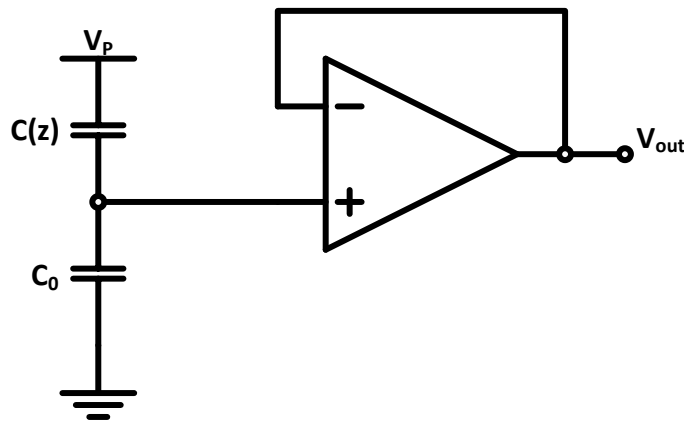

Figure PS1-2
- (f) Many MEMS-based accelerometers sense ΔC as a measure of the magnitude of acceleration experienced. Figure PS1-2 presents one possible circuit that converts a change in capacitance to a readable output voltage. Here, the fixed capacitor C_o has the same value as the bottom electrode-to-proof mass capacitance of the accelerometer at rest. (The accelerometers electrode-to-proof mass capacitance is represented by $C(z)$ in the figure.) For this circuit, write an expression for the output voltage V_{out} as a function of acceleration a , assuming the op amp is ideal. How does the output voltage scale as all dimensions are scaled by $(1/2)\times$? (The circuit is biased with $V_p=10V$)
- (g) The resolution of a sensor is the smallest input it can detect. Assuming the smallest change in capacitance that the electronic circuit in Fig. PS1-2 can detect is 1fF, what is the resolution of the overall accelerometer (in volts)? Can the unscaled accelerometer measure the force of gravity, i.e., 1g? If not, how would you change the accelerometer to allow measurement of 1g? [Hint: Does scaling improve the minimum detectable acceleration?]